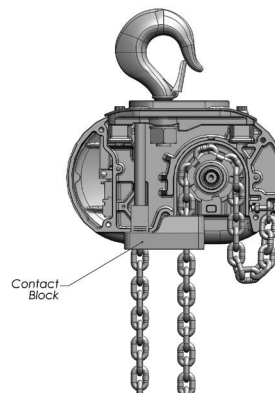

Figure 9. Contact Block Used on Models R, R-2, RR and RR-2
2. On Models E, E-2, H and H-2, insert the last link of the load chain into the dead end block (1) and secure it with the dead end pin, washer and cotter pin furnished with the suspension. Ensure there are no twists in the chain.
3. On Models R, R-2, RR and RR-2, slide the contact block up the chain until it is against the bottom of the hoist and the dead end block is projecting through the square opening in the bottom of the block. Insert the last link of the load chain, making sure there are no twists between the hook block and the dead end block, into the dead end block. Push the contact block up slightly and secure the load chain to the dead end block using the dead end pin, washer and cotter pin furnished with the suspension. The dead end pin also supports the contact block (See Figure 9)